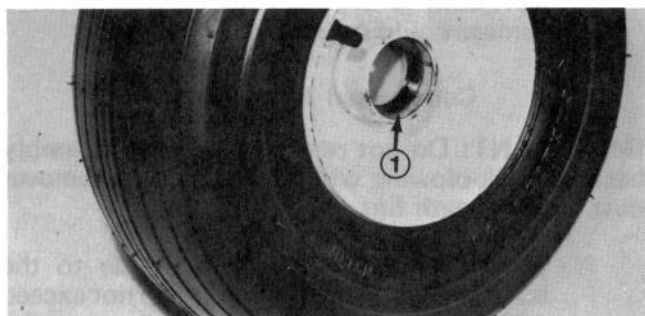

Figure 51
4. If bearing cups were removed from the wheel hub, press them into the hub until they seat against the shoulder (Fig. 51).